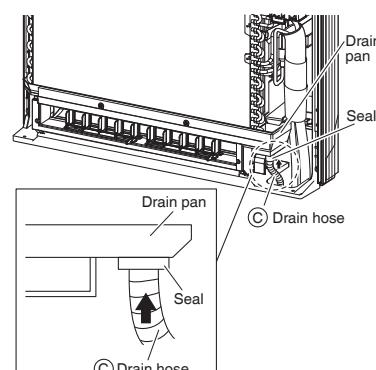

Fig. 2
- Insert the \odot drain hose into the socket of the drain pan. (See Fig. 2)